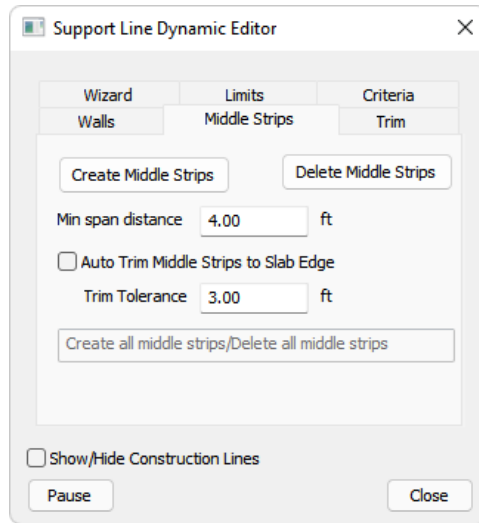

FIGURE 10-11
- Click on the **Middle Strips** tab of the *Dynamic Editor* as shown in **FIGURE 10-11**.